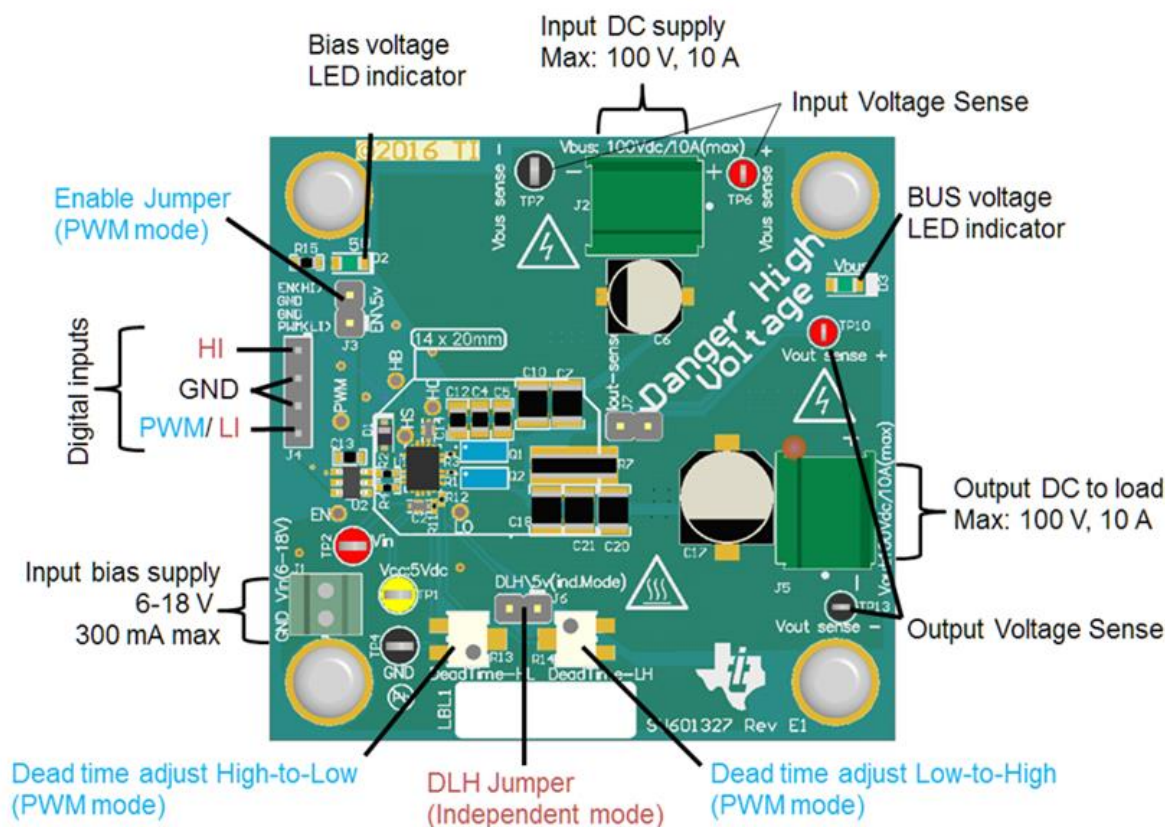

Figure 3. Recommended Connection Points and Feature Description
Connect the input and bias supplies and DC electronic load as indicated in Figure 3.
1. Connect the input(J2) and output supplies (J5) as shown in Figure 3, but do not power them on yet.
- For PWM mode, short jumper J3 and leave J6 open. Leave EN(HI) on J4 unconnected. Connect single output of the signal generator to PWM and GND on J4.
4. Power the bias supply (J1) up to between 6 V and 18 V, as shown in Figure 3. The LMG1210 internal LDO provides 5 V to power internal circuitry and gate drivers. Its presence is verified by LED D2.
6. Power up the input supply (J2) (as shown in Figure 3) and set J2 to the desired input voltage no higher than 100 V. Set the current limit to 10 A. Presence of Vbus is verified by LED D3.